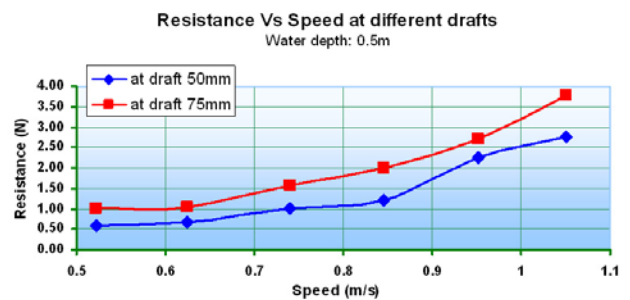

Fig.1. Comparison of resistance at different drafts
1. The increase in resistance is 60% when there is an increase in draft of 50%. (fig.1)
As an example, the fig.1 shows a typical British foreign going four hatch cargo tramp ship and detailed examination shows a square sail yardarm stowed vertically against its fore mast, ready for utilisation in ocean voyages when the wind was near or aft of the beam.